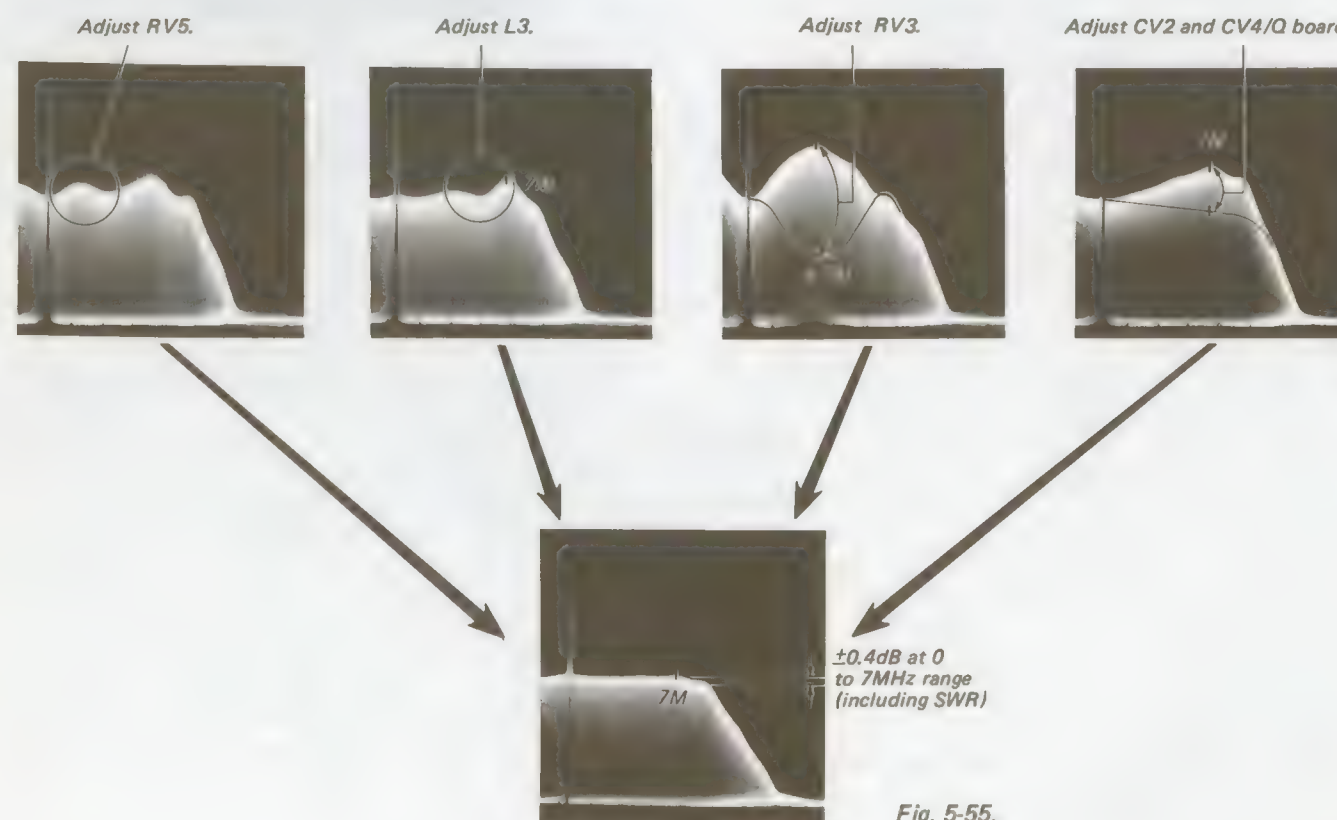

Fig. 5-55.
4. Adjust RV 3, RV 5, and L3 on the BB board and CV2 on the Q board so that the frequency characteristic of the delay line is flat (SWR is minimum) in a range of 0 to 7 MHz. (See Fig. 5-55.)